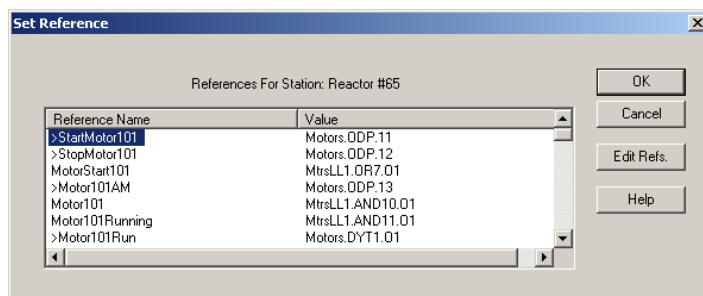

Figure 4-18 Set Reference dialog
2. Right-click the reference name above the contact. The Set Reference dialog displays. See Figure 4-18.